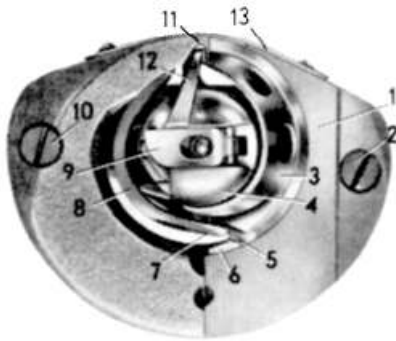

Fig. 7 Oscillating shuttle
- Shuttles that move in a race and are driven by a shuttle driver, such as the central-bobbin, or oscillating, shuttle depicted in Fig. 7, and